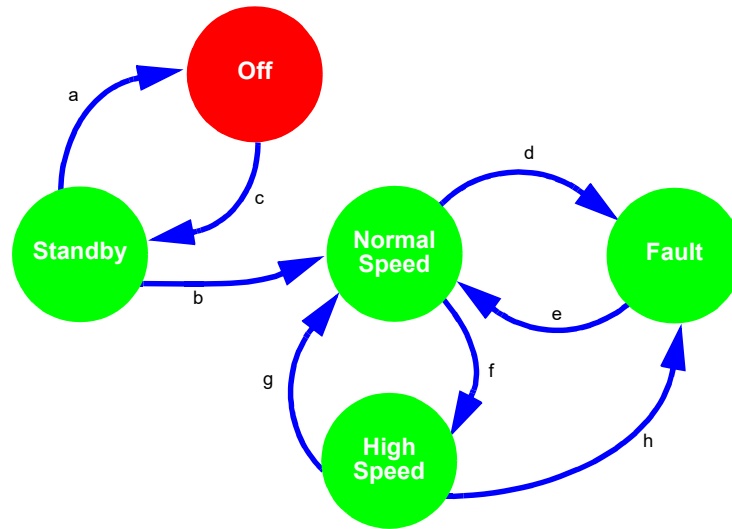
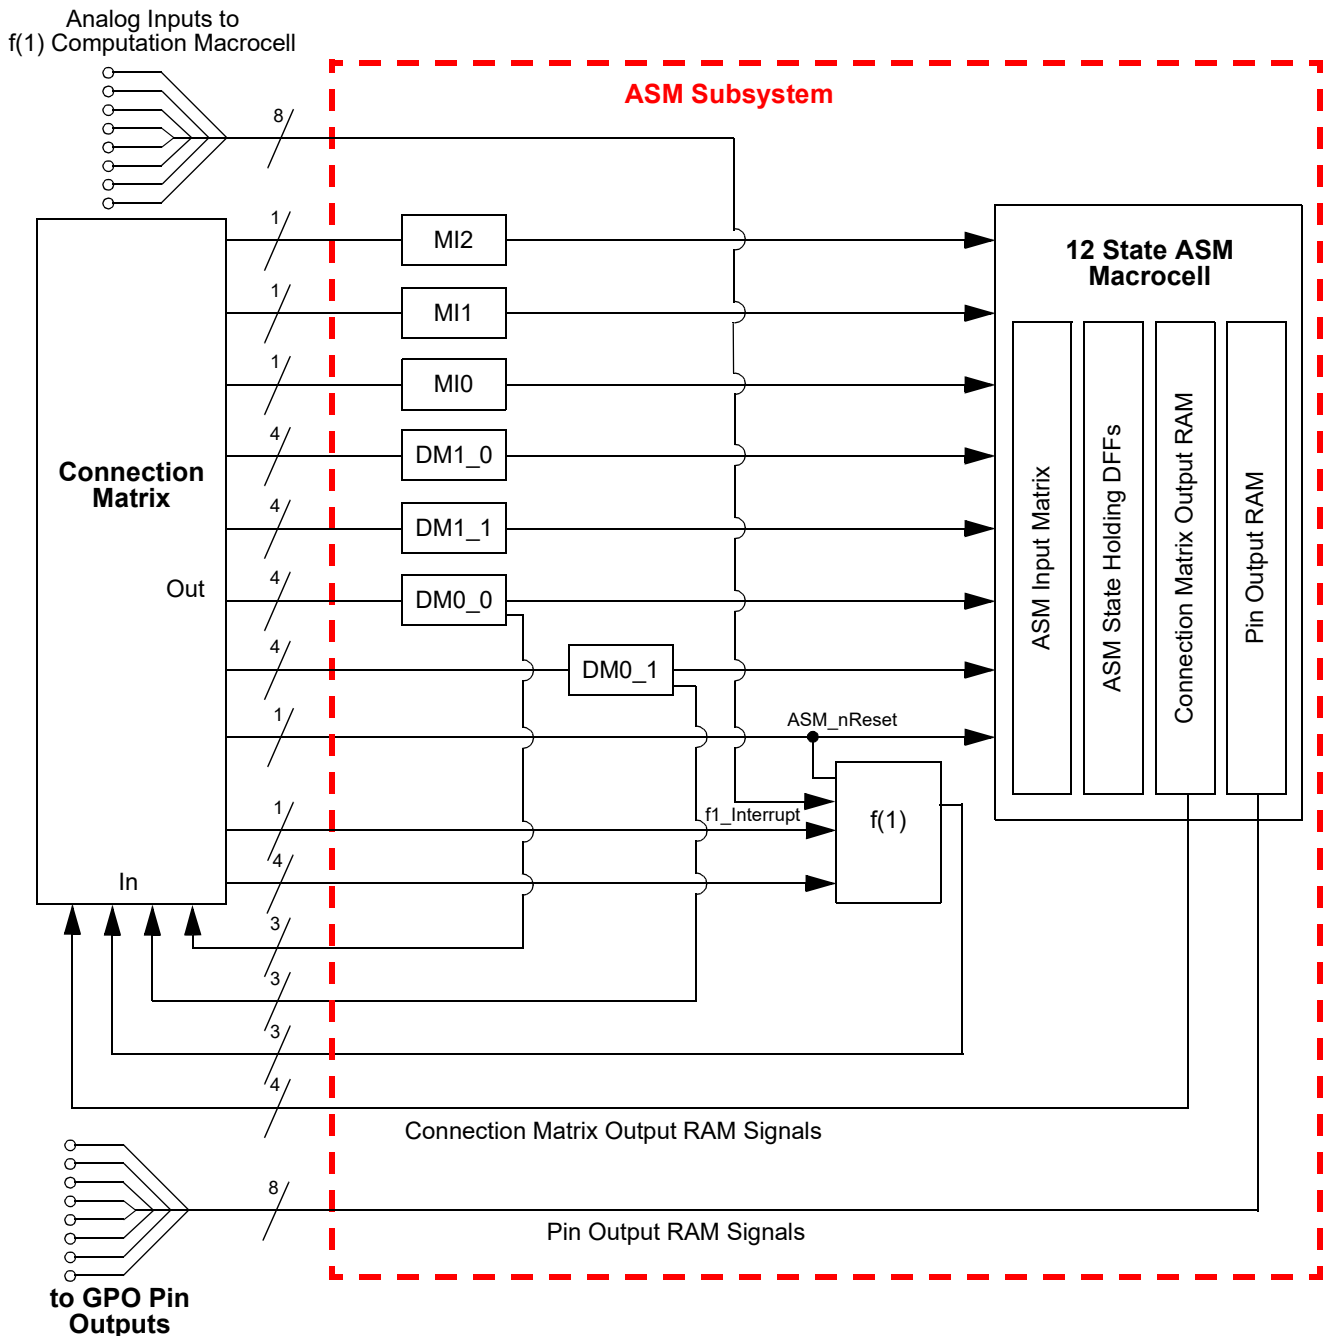

Figure 76: Asynchronous State Machine State Transitions
Figure 77: Connection Matrix to ASM Subsystem
The Asynchronous State Machine (ASM) Subsystem is designed to allow the user to create state machines with between 2 to 12 states. The user has flexibility to define the available states, the available state transitions, and the input signals (a, b, c ...) that will cause transitions from one state to another state, as shown in Figure 76.
- Dynamic Memory (DM) Macrocells – Section 16.
- f(1) Computation Macrocell – Section 17.
- Matrix Interface (MI) Macrocells Section 18.
The ASM Subsystem has a total of 25 digital input signal lines, as shown in Figure 77, which all come from the Connection Matrix outputs. Of these 25 digital input signals, 3 are user selectable inputs going directly from the Connection Matrix to the three Matrix Interface (MI) macrocells. There are a total of 16 input signals that go to the DMx\_x macrocell, four per macrocell. There is 1 ASM\_nReset input that is for driving a state transition in both the ASM macrocell and the f(1) Computation Macrocell to an Initial/Reset state. It is possible to use one macrocell only (MI or DM) for state to state transitions. There are 4 digital input signals coming from the Connection Matrix to the f(1) Computation Macrocell. There is also 1 dedicated Interrupt input signal to the f(1) Computation Macrocell that will halt any active operations and transfer control back to the ASM macrocell.
The ASM Subsystem has a total of 21 digital output signal lines, as shown in Figure 77, There are a total of 4 output signals which go to the Connections Matrix inputs, and from there can be routed to other internal macrocells or pins. The 4 outputs are user defined for each of the possible 12 states. There are a total of 8 output signals which go directly to the 8 GPOs. The 8 outputs are user defined for each of the possible 12 states. Each of the three macrocells, DM0\_0, DM0\_1 and f(1) have three output signals that go to the Connection Matrix.
The GPAK Designer development tools support user designs for the ASM Subsystem at both the physical level and logic level. Figure 76 is a representation of the user design at the logical level, and Figure 77 shows the physical resources inside the various macrocells in the ASM Subsystem. To best utilize this subsystem, the user must develop a logical representation of their desired state machine, as well as a physical mapping of the input and outputs required for the desired functionality.